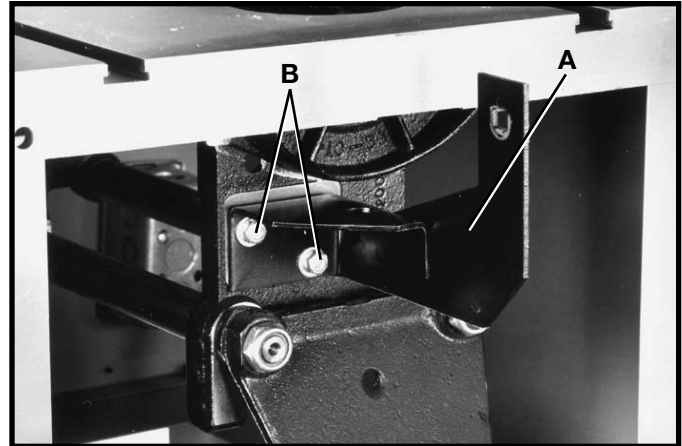

Fig. 28
1. Fasten the rear splitter mounting bracket (A) Fig. 28, to the rear trunnion using the two 1/4-20 x 3/4" hex head screws (B) and flat washers. Do not completely tighten the two screws (B) at this time.